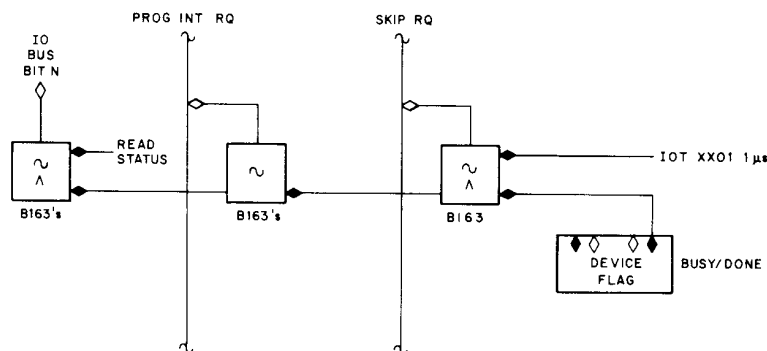
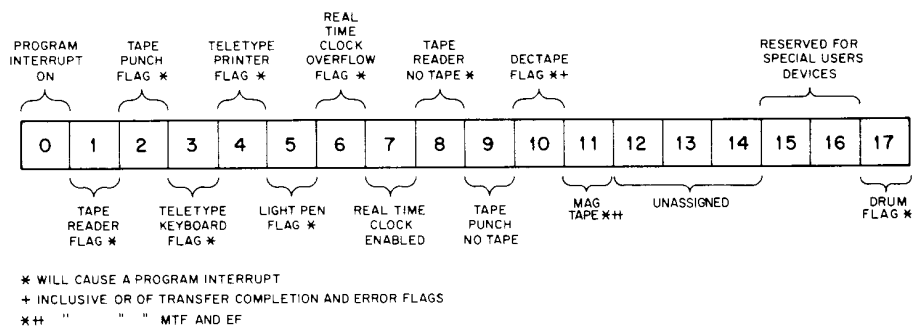

Figure 3-3 Device Flag Hardware
Figure 3-4 IORS Word-Status Bit Assignment
Figure 3-3 shows the device hardware required for PI. The device flag is connected to the PROG INT RQ line with a B163 module or equivalent. When an interrupt is recognized by the computer, it stops
3.1.4.2 I/O Skip Facility - The skip subroutine referred to above must identify the interrupting device. The I/O skip facility performs this function in the following way (see Figure 3-3).
status level to gate their device flag onto the corresponding I/O bus line (Figure 3-3). The status word can be displayed in the REGISTER indicators by putting the console switch to status and stopping the computer. Figure 3-4 shows the bit positions associated with the commonly interfaced flags. The functions of the device flags normally interfaced to the IORS (input/output read status) facility are presented below.